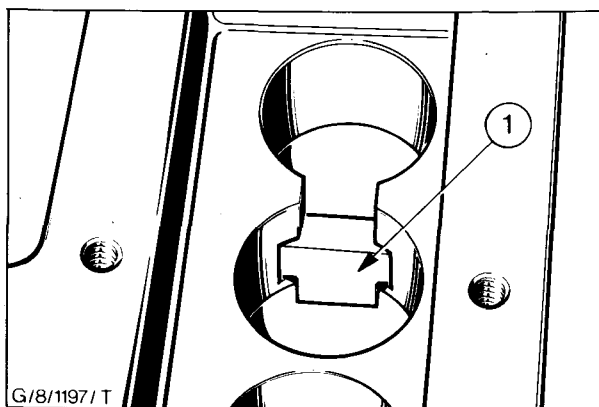

Fig. 80 - Tappet Locating 'T' Pieces (Dorset)
1. Dorset - Fit the steel 'T' pieces to their locations between the tappet bores in the cambox (Fig. 80).